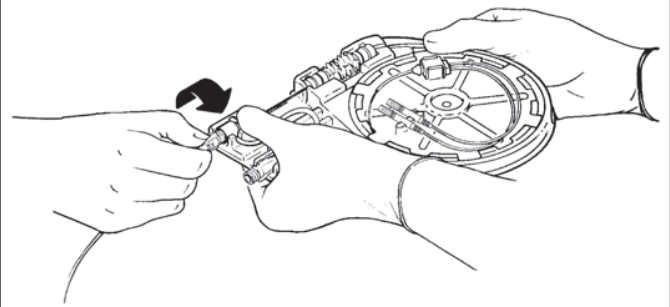

Figure 2.
4. Connect the T-B adapter to the orange RV lumen hub. Be careful not to damage the probe tip (See page 5, Fig. 2).